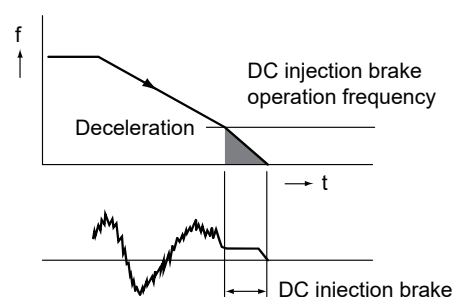

Fig. 3.22 DC injection brake operation
- (1) When the inverter start signal (STF/STR) is turned OFF, the motor decelerates as shown in Fig. 3.22. When the output frequency becomes the DC injection brake operation frequency or less, the DC voltage is applied to the motor, and then the motor stops. This is called DC injection brake.